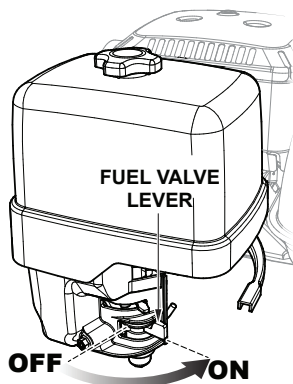

Figure 14. Engine Fuel Valve Lever (ON Position)
2. Place the engine fuel valve lever (Figure 14) in the **ON** position.